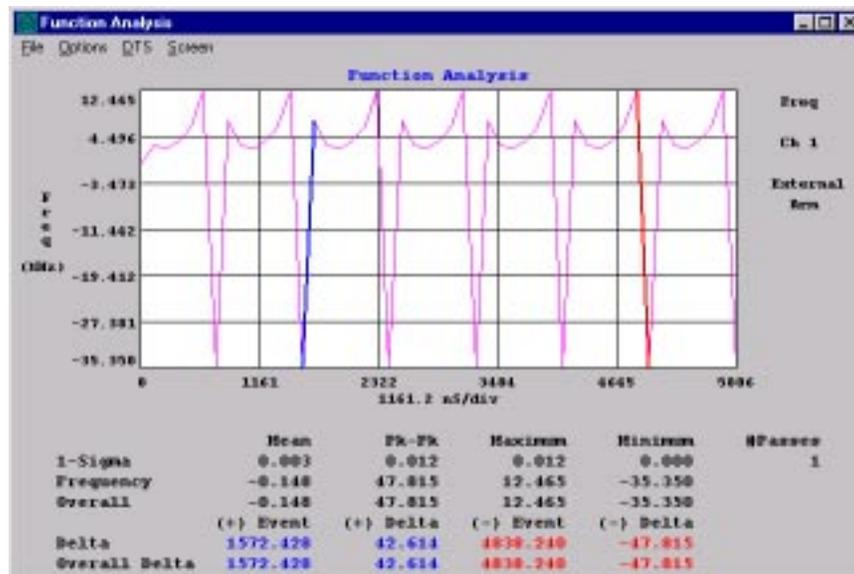

Figure 6.33 Function Analysis - Frequency as a Function of Time (Derivative)
- **FUNCTION ANALYSIS – FREQUENCY AS A FUNCTION OF TIME (DERIVATIVE)** (Refer to Figure 6.33)
Enlarges view of Figure 6.33, showing the first frequency derivative.